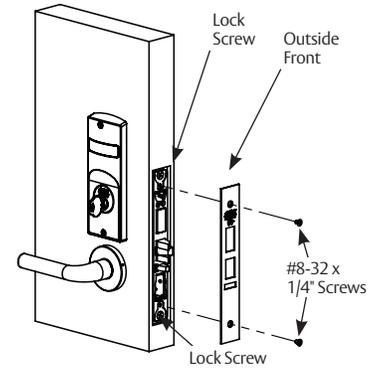

Figure 32
1. Tighten the two (2) lock screws completely. (Figure 32)
2. Attach outside front with two (2) flat head screws #8-32 x 1/4".